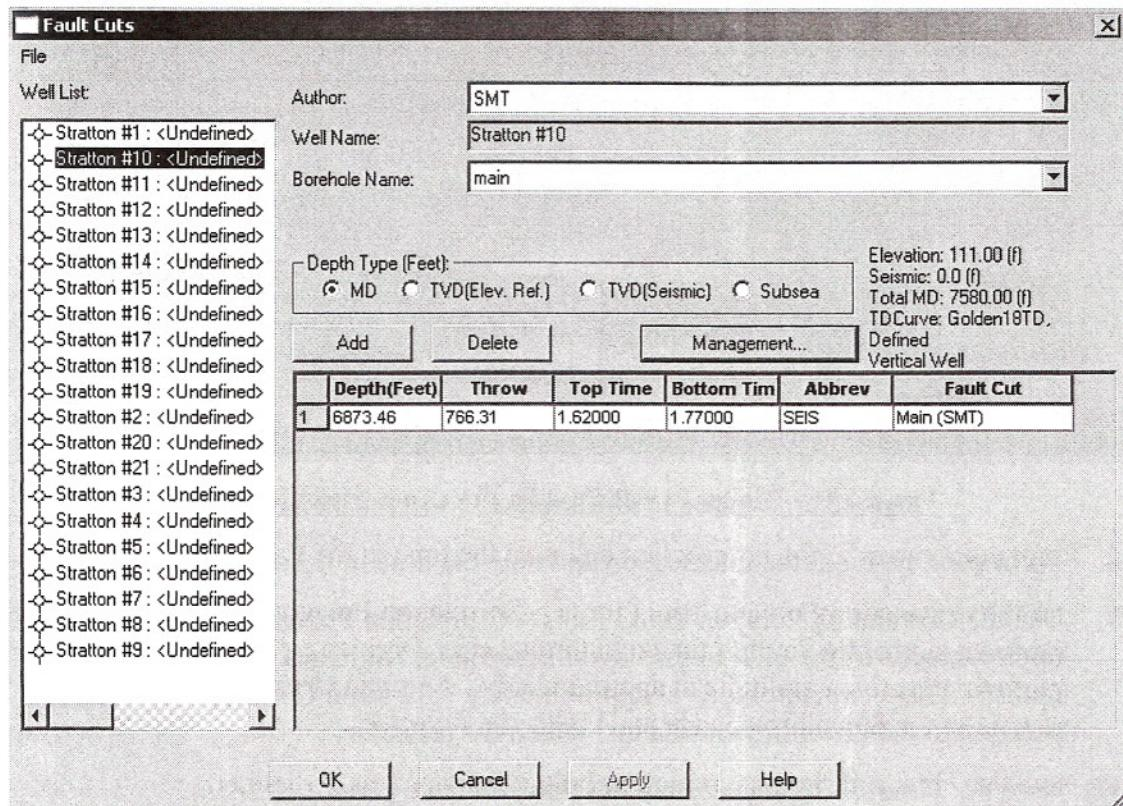

Figure 3.12 — Fault Cuts dialog box
16. From the **Fault Cuts** dialog box that opens shown below (Figure 3.12), select the Stratton #10 well from the Well List.